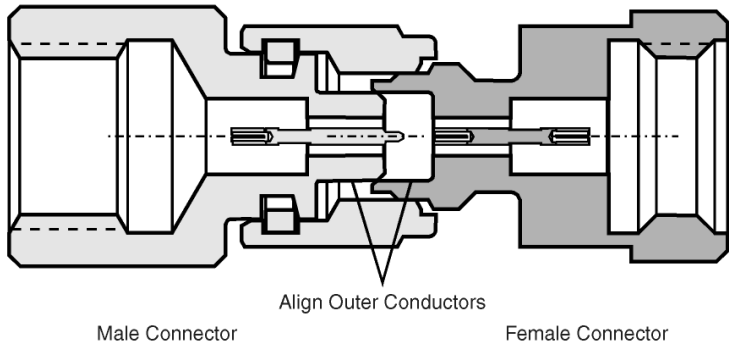
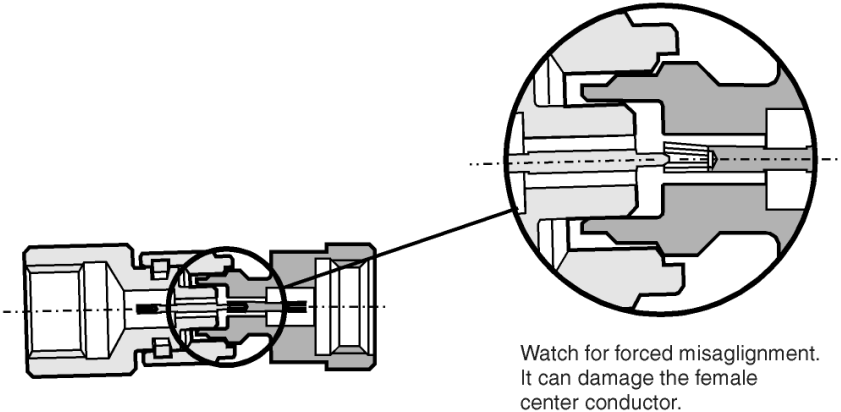

Figure 4-5 Alignment
Figure 4-6 Forced Misalignment
If one of the 1.0-mm connectors is free to move, self-alignment is possible during connection. Self-alignment occurs because outer conductors engage before the center conductors (refer to Figure 4-5 and Figure 4-6).
To achieve misalignment as shown in Figure 4-6 you must use *excessive* force.
4. Carefully align the connectors. The male connector center pin must slip concentrically into the contact fingers of the female connector (refer to Figure 4-5 and Figure 4-6).